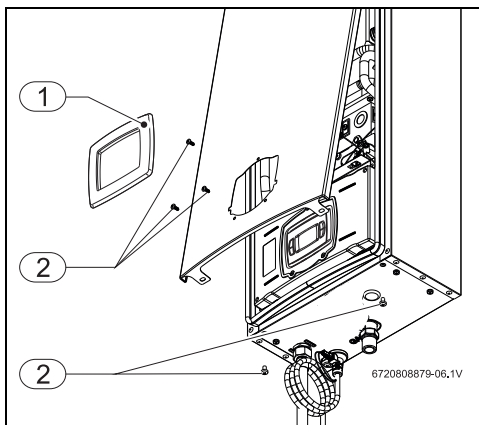

Fig. 10 Remove the front
- ▶ Remove the bezel around the display from the appliance by gently levering it off with a screwdriver. (fig. 10, [1]).
- ▶ Loosen the 3 fixing screws from around the display and 2 front panel fixing screws from the underside of the appliance (fig. 10, [2]).